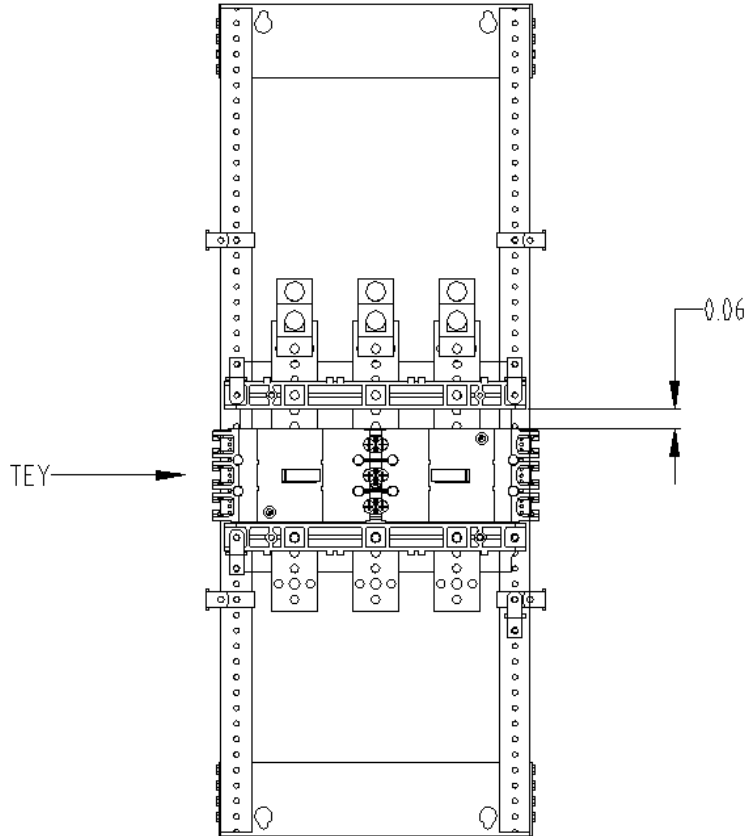

Figure 5. Distance between Crossbar and TEY breaker
13. If TEY breaker has to installed immediate after crossbar as shown in Figure 5 then gap between the breaker and crossbar has to be 0.06inch.